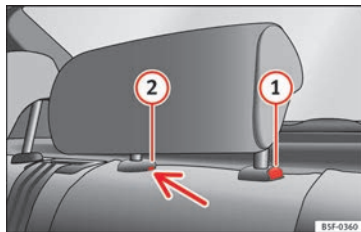

Fig. 150 Rear centre head restraint: release point.
- To set the head restraint lower down, press the  »» **Fig. 150** button and move it downwards.
- Press button  »» **Fig. 150**, while simultaneously pressing on the security hole  »» **Fig. 150** with a flat screwdriver a maximum of 5 mm wide, and remove the head restraint.